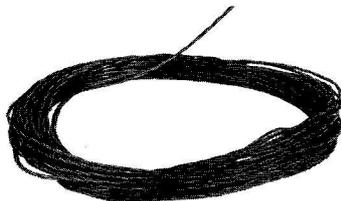

Fig. 2 — Dispensing Twisted Wire
- (1) Place coil flat on floor so that inner end will feed from coil in a counterclockwise direction.
- (2) Feed from center of coil (Fig. 2).